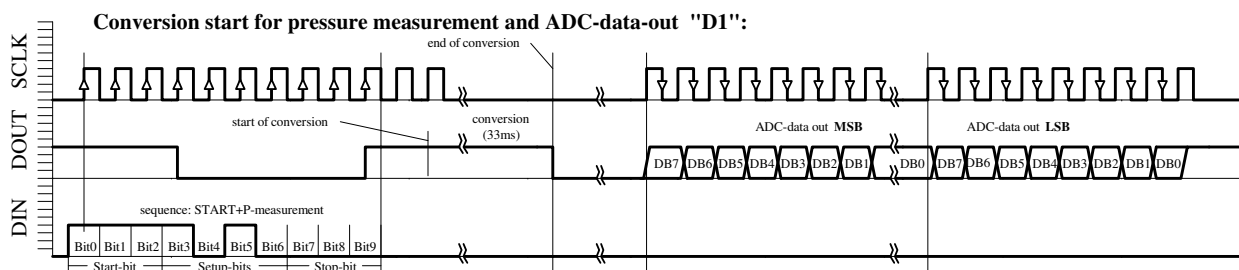

Fig. 6a: D1 ACQUISITION sequence.
- Conversion start for pressure measurement and ADC-data-out "D1" (Figure 6a)